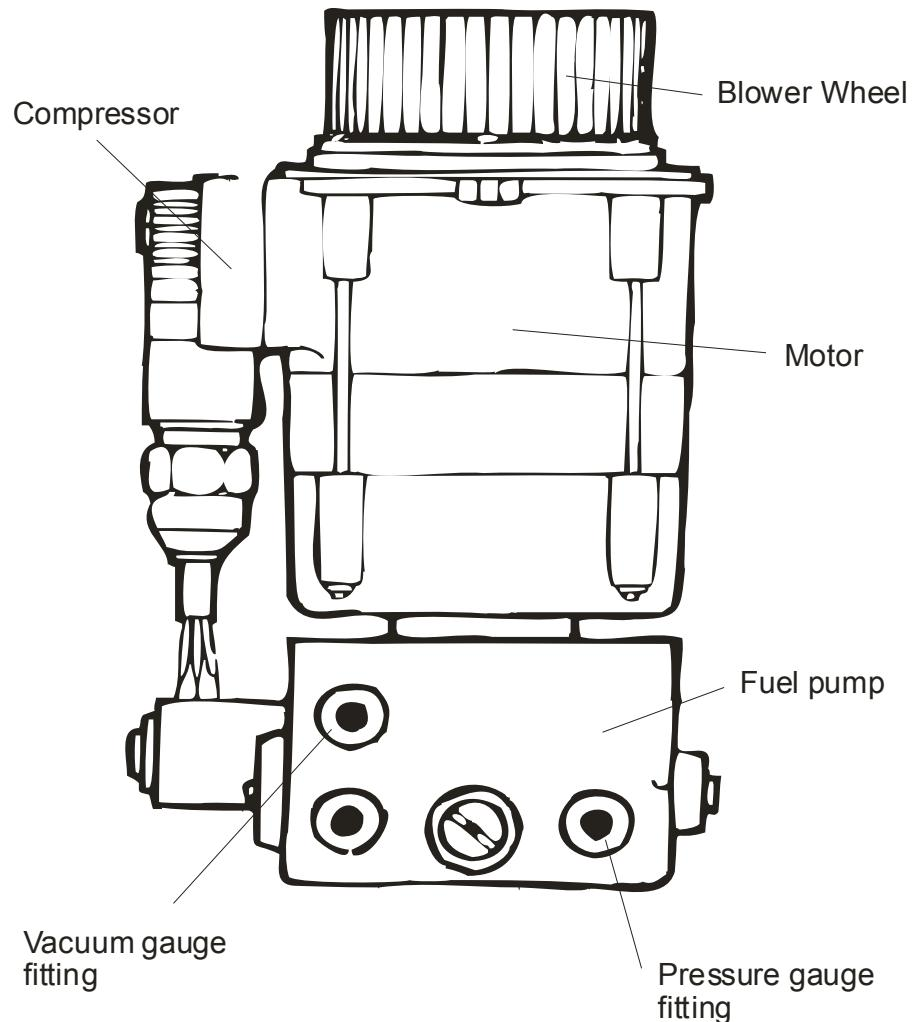

Figure 5-14. Airtronic Burner Power Pack Assembly
i. Step 9. Now remove the entire power pack, as shown in figure 5-14 (consisting of the motor, compressor, fuel pump, and blower wheel), by unscrewing the two 10mm hex nuts holding the motor mounts to the upper fan housing.